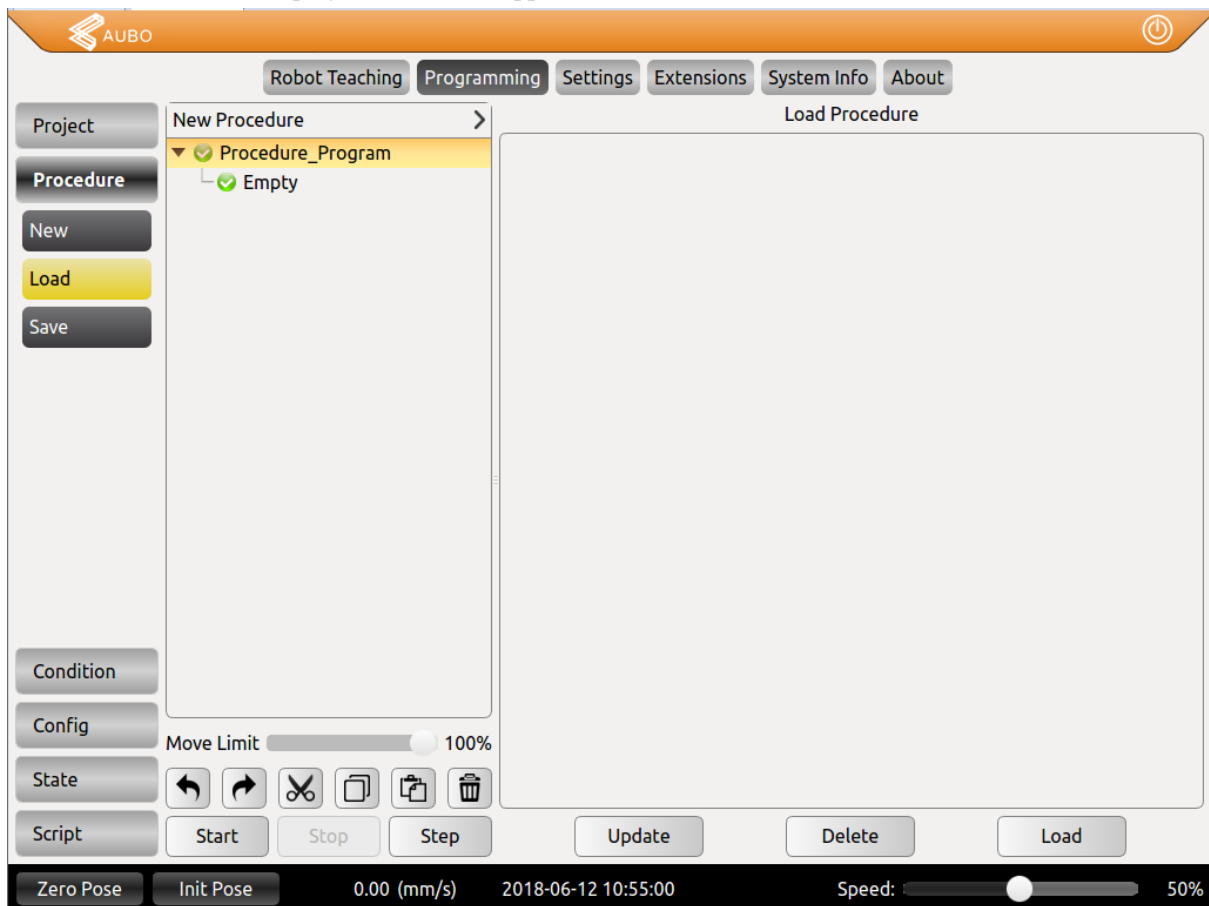

Figure 11.7 Procedure Project
- Manually move mode can be used when auto move is not suitable. As shown in figure 11.7, manipulator will hit working plane or barriers when moving from C to A under auto move. In this case, manually move can be used to move to safe point (like B) firstly, then move to the initial position A to avoid damaging robot or other equipment.